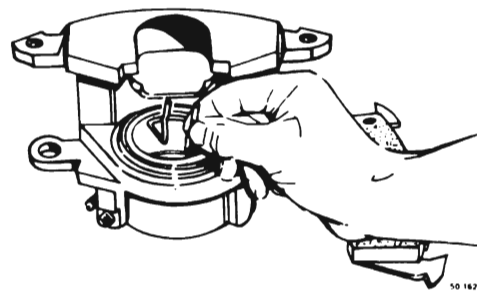

Figure 50-38--Inserting Shoe Support Spring
3. Place the shoe support spring in the center of the piston as shown in Figure 50-38.